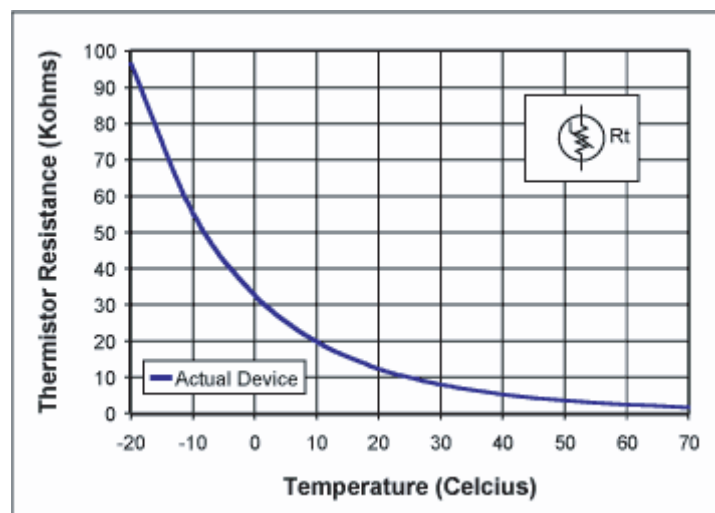

Figure 2: Resistance by Temperature
As shown in the NTC characteristics of Figure 2, there is a coherence between the temperature and the resistance. See the Monitoring / Computing / Displaying for information on how to adjust the NTC curve.
1. For the most accurate solution create a look-up table (LUT) that correlates clock cycles to temperature (Figure 2). For example: